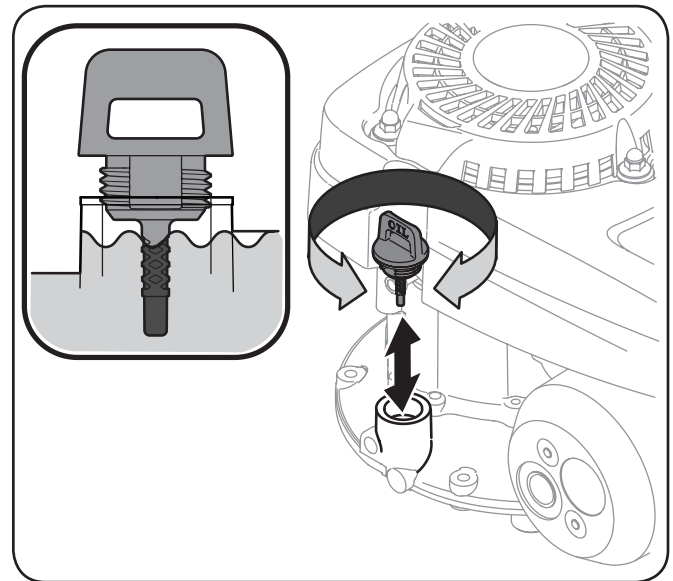

Figure 3-2
1. Remove the oil filler cap/dipstick and wipe the dipstick clean. See Figure 3-2.
3. Remove the oil filler cap/dipstick. If the level is low, slowly add oil to the upper limit on the dipstick. See Figure 3-2.